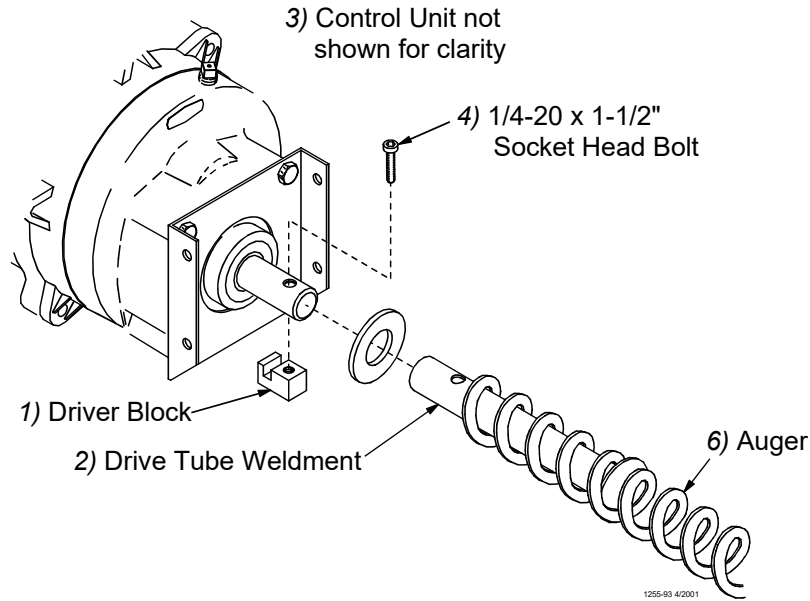

Figure 66. Auger Driver Components
4. Slide the Drive Tube and flat washer over the output shaft on the Power Unit, as shown in **Figure 66**.
6. Turn the Drive Tube Weldment into the auger, then attach to the output shaft of the Power Unit, as shown in **Figure 66**. Use the Driver Block to secure the auger to the Output Shaft.